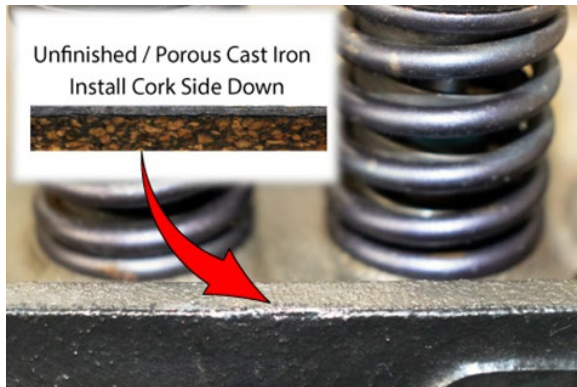

Figure 1
- a. Porous cast-iron rails seal better with the cork side against the head (see figure 1).